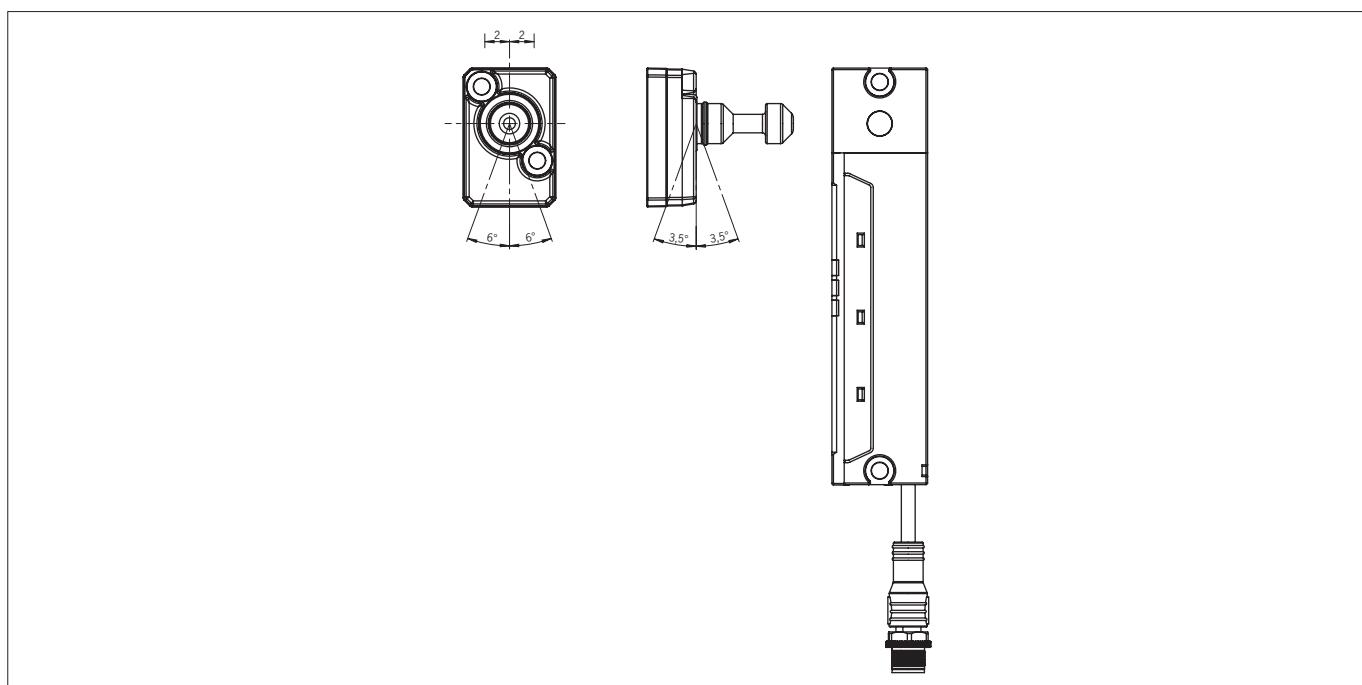

Fig. 4: Maximum center offset and maximum actuator deflection
- Observe the maximum permissible inclination angles between switch and actuator (see *Fig. 4*).